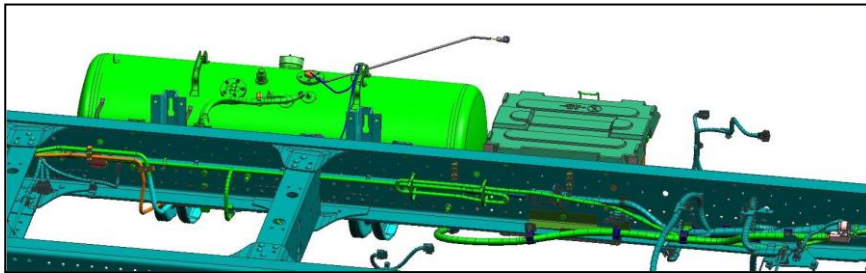

Figure 42
7. Secure the DFT harness, between cross-members, with three (3) tie-straps. Depending on WB, the excess harness should be bundled at approximately the rear
edge of the battery and secured with two (2) tie straps. (See Figure 42.)